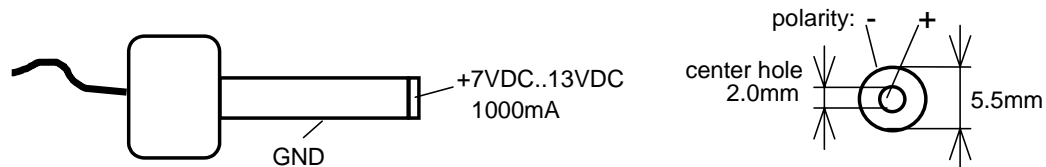

Figure 3: Power Connector
- Using the included 9VDC power adapter, connect the power socket on the board (X5) to a power supply (refer to Figure 3 for the correct polarity). The phyCORE module/Development Board combination requires a 9VDC@1A power supply.